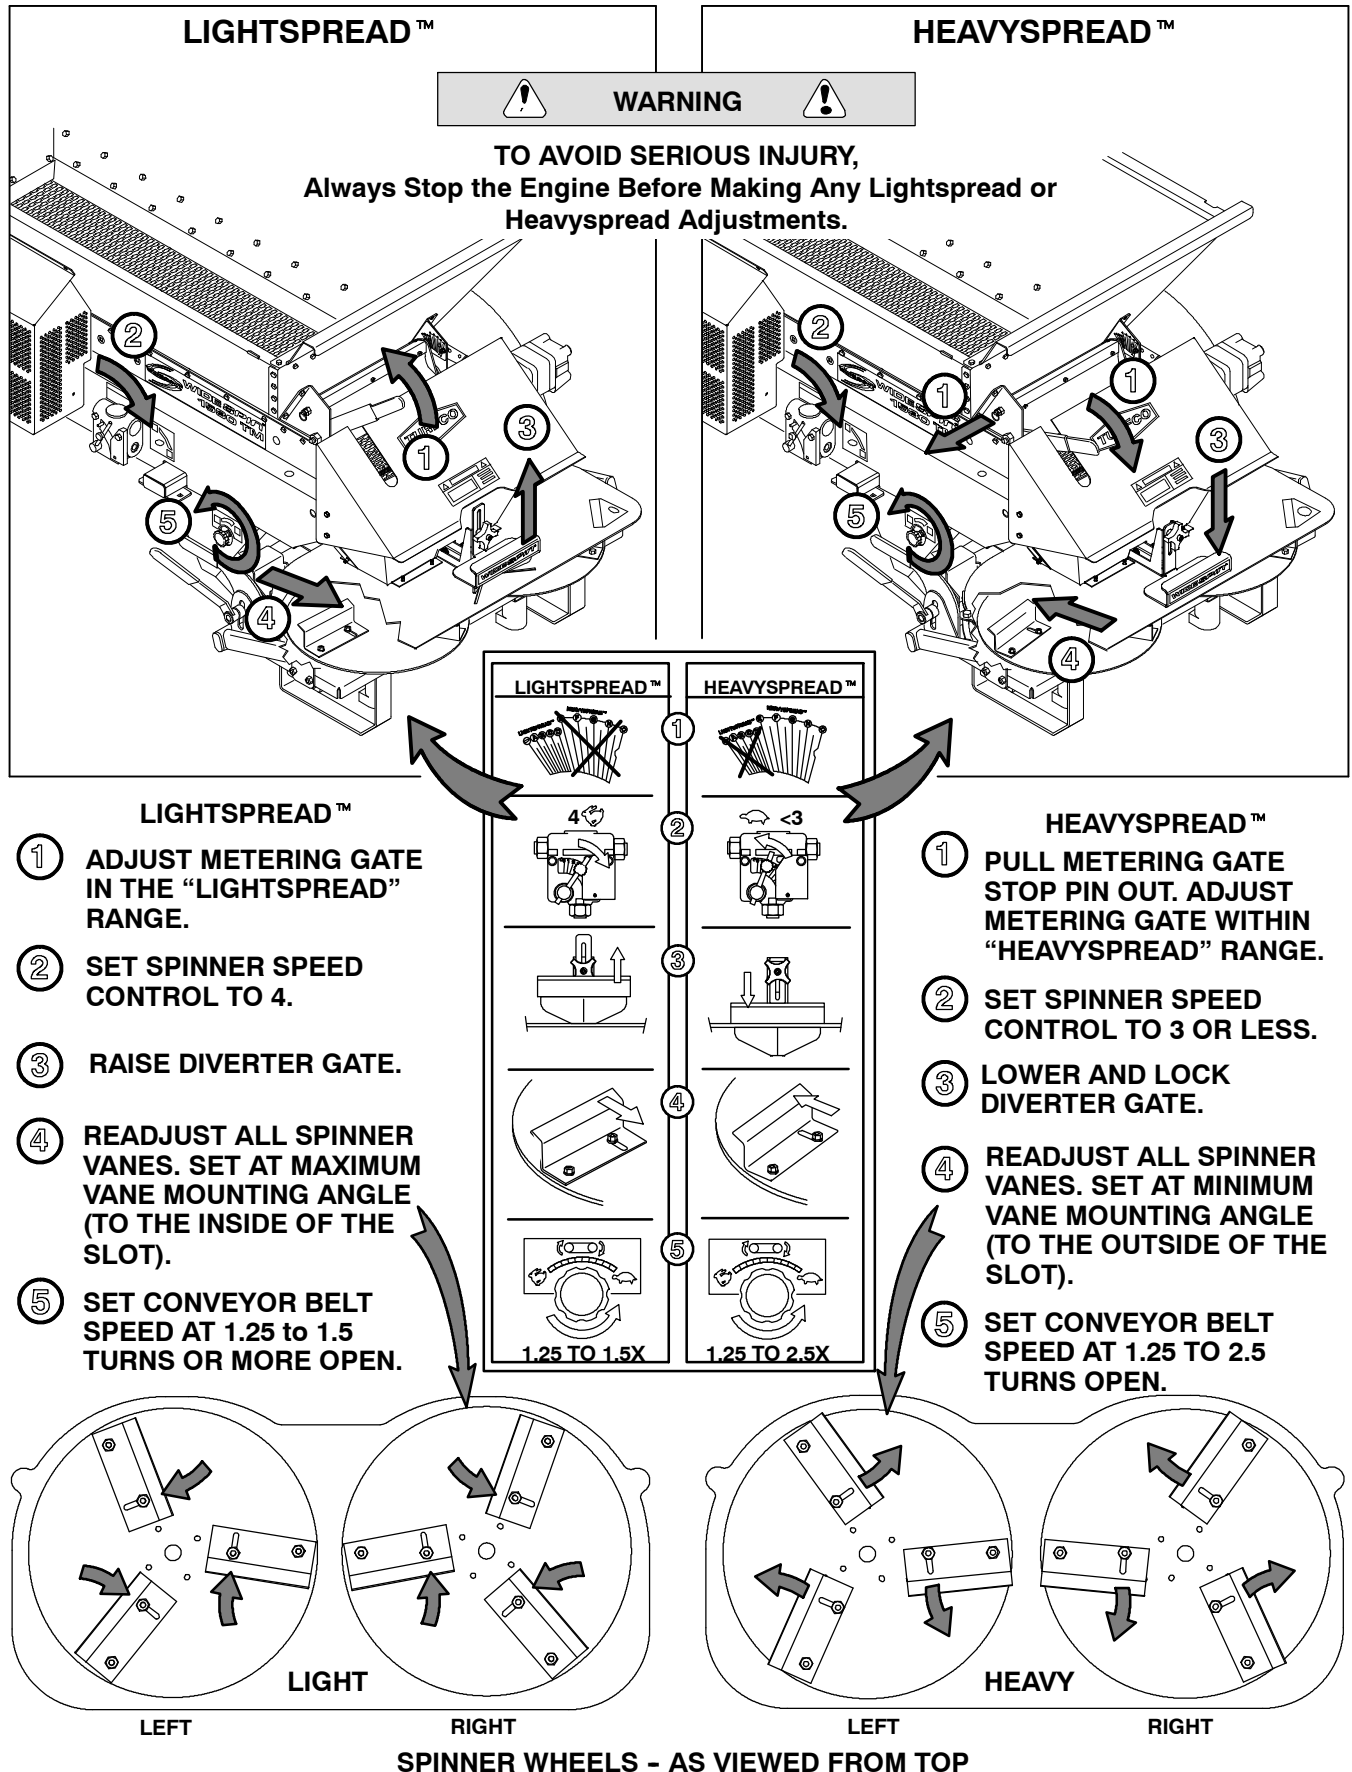

FIGURE 6
④ Adjusting Spinner Wheel Vanes (See Figures 6 and 7)
The mounting angle is adjusted by loosening the inside locking screw on the vane (it is not necessary to loosen the screw on the outside), sliding the vane to the other end of the slot on the vane, and retightening the screw. **NOTE:** Because the right and left spinner wheels rotate in opposite direction, the right and left vanes are a mirror image of each other. See Figure 6 for the location and direction of adjustment for each individual vane.